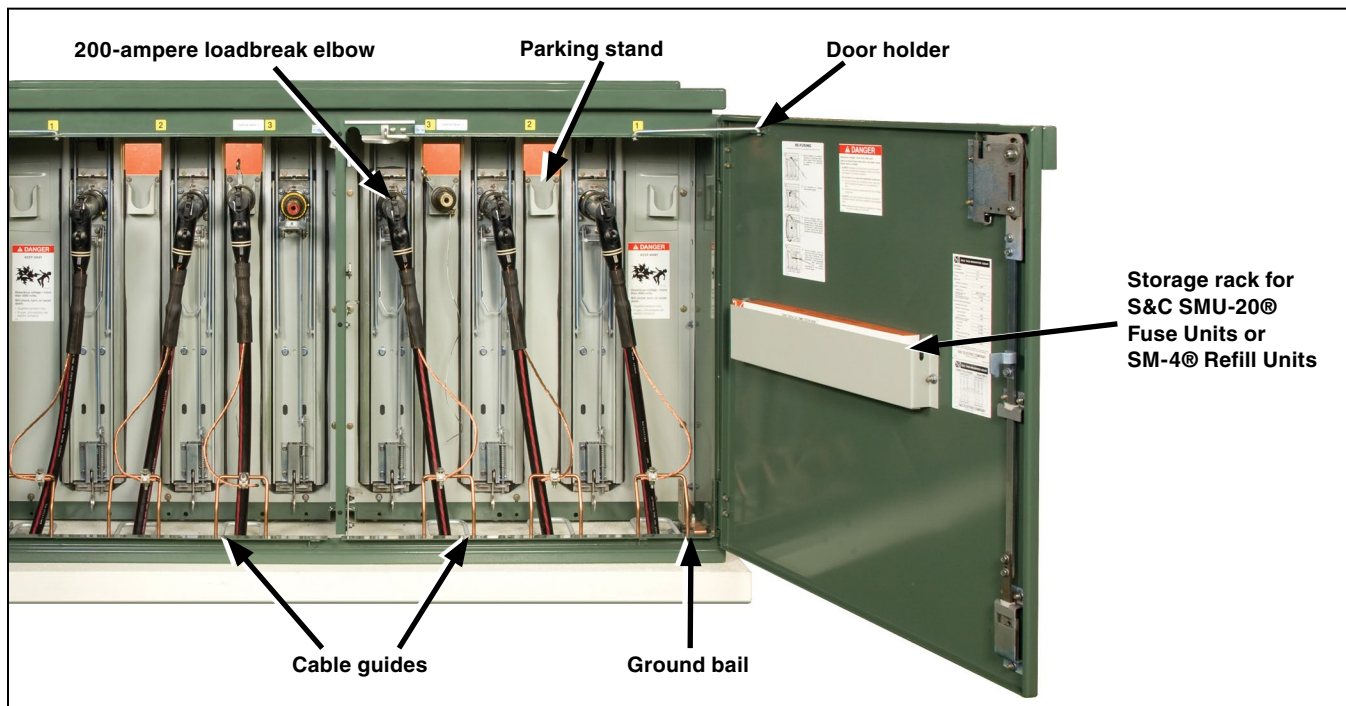

Figure 14. The termination compartment for fuses with elbows installed on 200-ampere inserts in the bushing wells.
- STEP 1.** Open the appropriate fuse termination compartment door and secure it with the door holder. See Figure 14. On double-door models, the adjacent door should be closed and latched to minimize exposure.